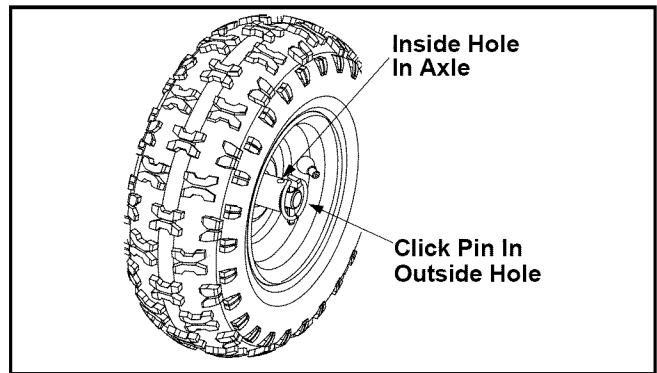

Figure 11
- The wheels may be adjusted for two different methods of operation. Follow the steps below for adjustment. See Figure 11.